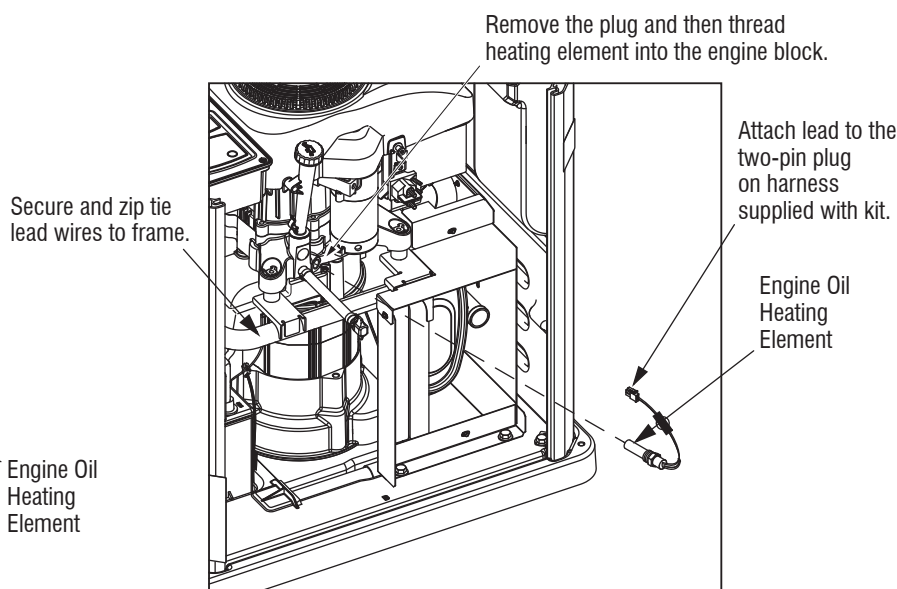

Figure 4
6. Remove the oil drain hose free from retaining clip. Remove the cap from the hose and drain the oil into a suitable container. After the oil has drained, replace the cap onto the end of the oil drain hose. Remove the existing oil filter and replace using the oil filter provided in the kit. Retain the hose in the clip. Locate and remove the socket plug using an 8 mm allen wrench (Figure 4).
8. Connect the two-pin plug to the other plug equipped lead on the kit's wiring harness. (Figure 4).